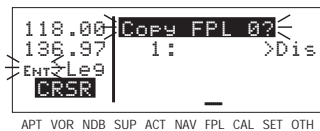

Figure 4-120
3. Rotate the right outer knob counterclockwise to position the cursor over **Copy FPL 0?** (figure 4-120).